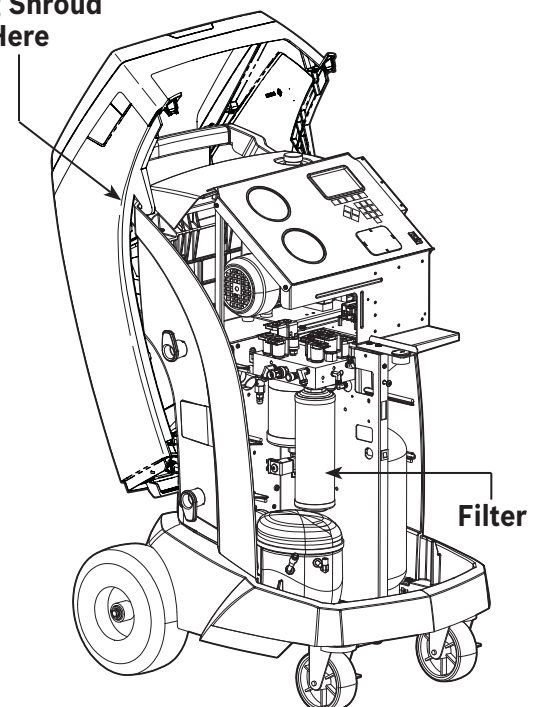

Figure 8
3. Hang the shroud on the back of the machine as shown in Figure 8.
6. Install the new filter by threading it clockwise into place. Verify the filter is positioned correctly as shown in Figure 8. Tighten the filter to 20 Nm.
4. Hang the shroud on the back of the machine as shown in Figure 8.